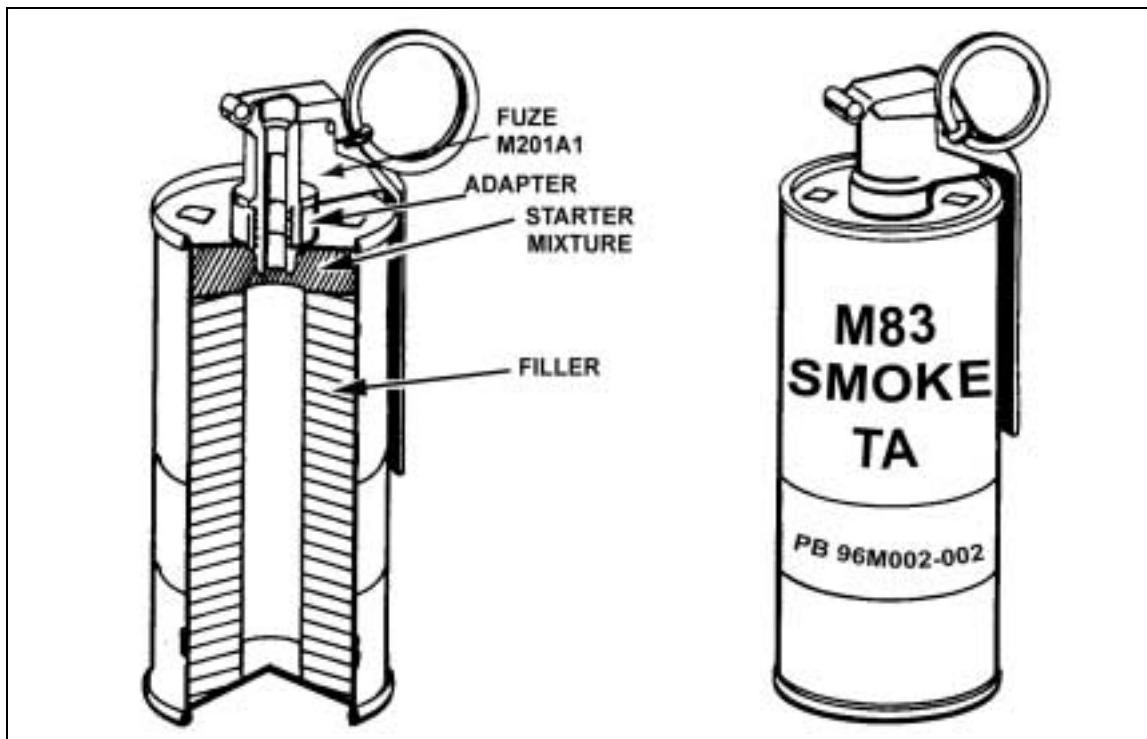

Figure 1-8. AN-M83 white smoke hand grenade.
b. **AN-M83 HC White Smoke Hand Grenade.** The AN-M83 HC white smoke hand grenade (Figure 1-8) is used for screening the activities of small units and for ground-to-air signaling.
- (1) *Body.* The body is a cylinder of thin sheet metal, 2.5 inches in diameter.
- (2) *Filler.* The filler has 11 ounces of terephthalic acid.
- (3) *Fuze.* The fuze is an M201A1.
- (4) *Weight.* The grenade weighs 16 ounces and is 2.5 inches in diameter and 5.7 inches in length.
- (5) *Safety clip.* This grenade does not have a safety clip.
- (6) *Capabilities.* The AN-M83 produces a cloud of white smoke for 25 to 70 seconds.
- (7) *Color and markings.* The grenade has a forest green body with light green markings, a blue band, and a white top.